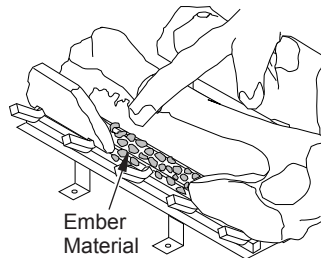

Figure 30 - Placing Ember Material on Burner
7. Pull ember material apart into pieces no larger than a dime. Place these pieces loosely and sparingly directly onto the exposed section of front burner and along space between burner and grate prongs (see Figure 30). This will create the glowing ember appearance as the flame touches the ember material. Do not block air slots by using too much ember material in one area. It is not necessary to use all of the ember material provided.